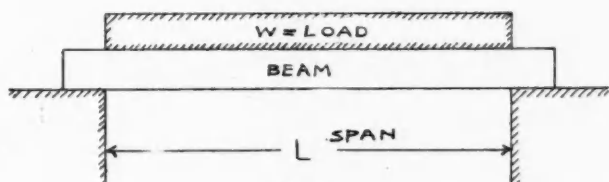

Fig. 8
*Case IV (Fig. 8).—Beam Supported at Both Ends with Load Uniformly Distributed:*